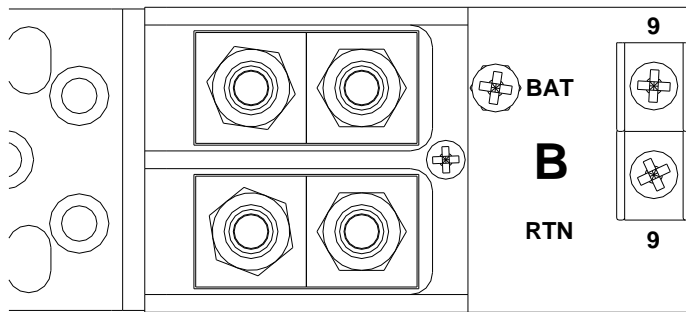

Figure 4.4.1
3.1. Power is connected to the panel through 1/4" stud input blocks (see fig 4.4.1). There is one set of inputs for each bus. These inputs are high current terminals with a maximum continuous current of 120 Amps. There is a Return (RTN) and Battery (BAT) input for each bus.
4.4. Remove the distribution fuse feeding the input cables that are to be connected to the new panel. Attach the input cables to the input terminal block in accordance to the National Electrical Code, ANSI/NFPA, and Canadian Electrical code. Hook up the input cables to the input terminal block on the fuse panel (“BAT” & “RTN” for each bus). Each high current input terminal uses a two-hole compression lug (1/4” on 5/8”, torque to 5.5 ft-lbs). A two-hole lug must be used for proper operation (see fig 4.4.1)